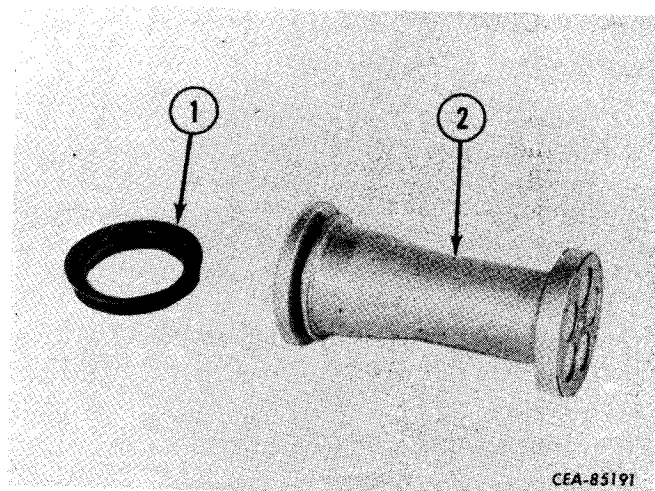

Figure 13-64
Remove the secondary cup (1, Fig. 13-64) from piston (2).